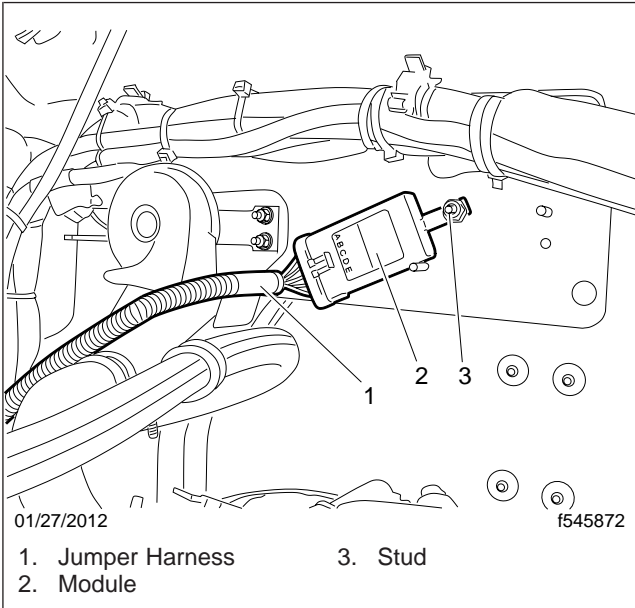

Fig. 2, New Module Installation
8. Mount the module to the frontwall using an unused stud near the horns. See Fig. 2.